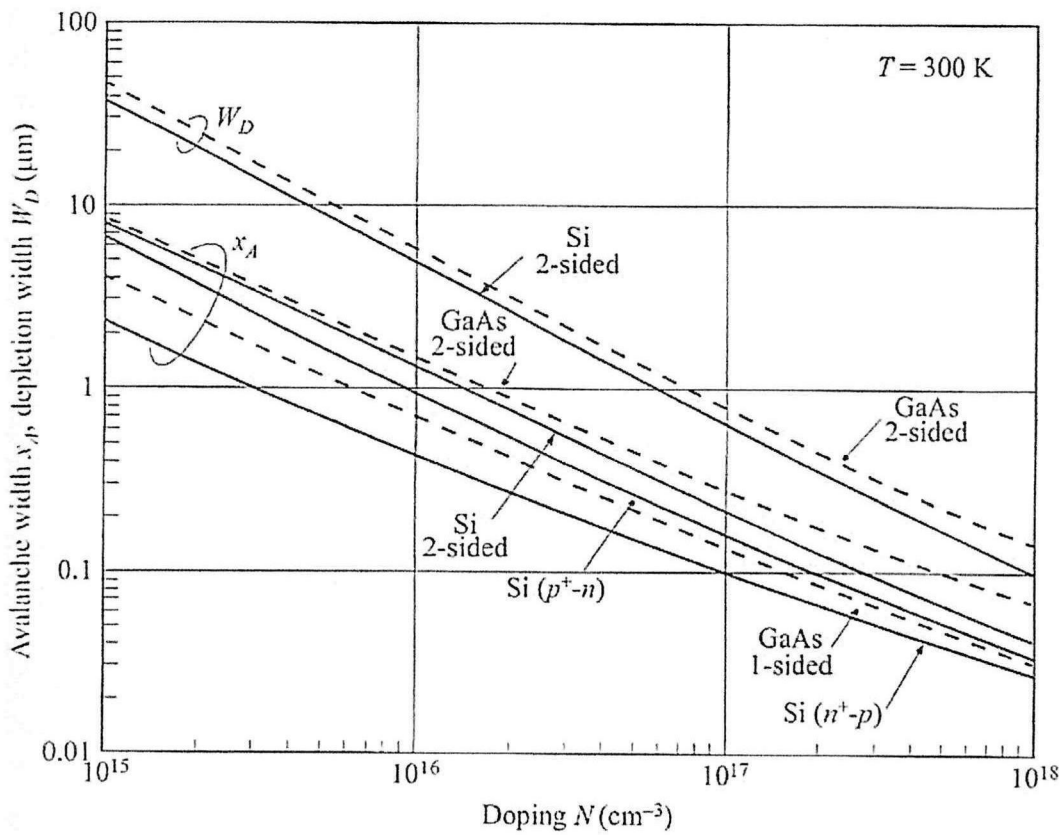

Figure Q2(b)
- (b) Referring to **Figure Q2(b)**, calculate the maximum electric field, E_m , and breakdown voltage, V_B , for a Si 2-sided IMPATT diode for concentration $N = 2 \times 10^{15} \text{ cm}^{-3}$. (5 marks)